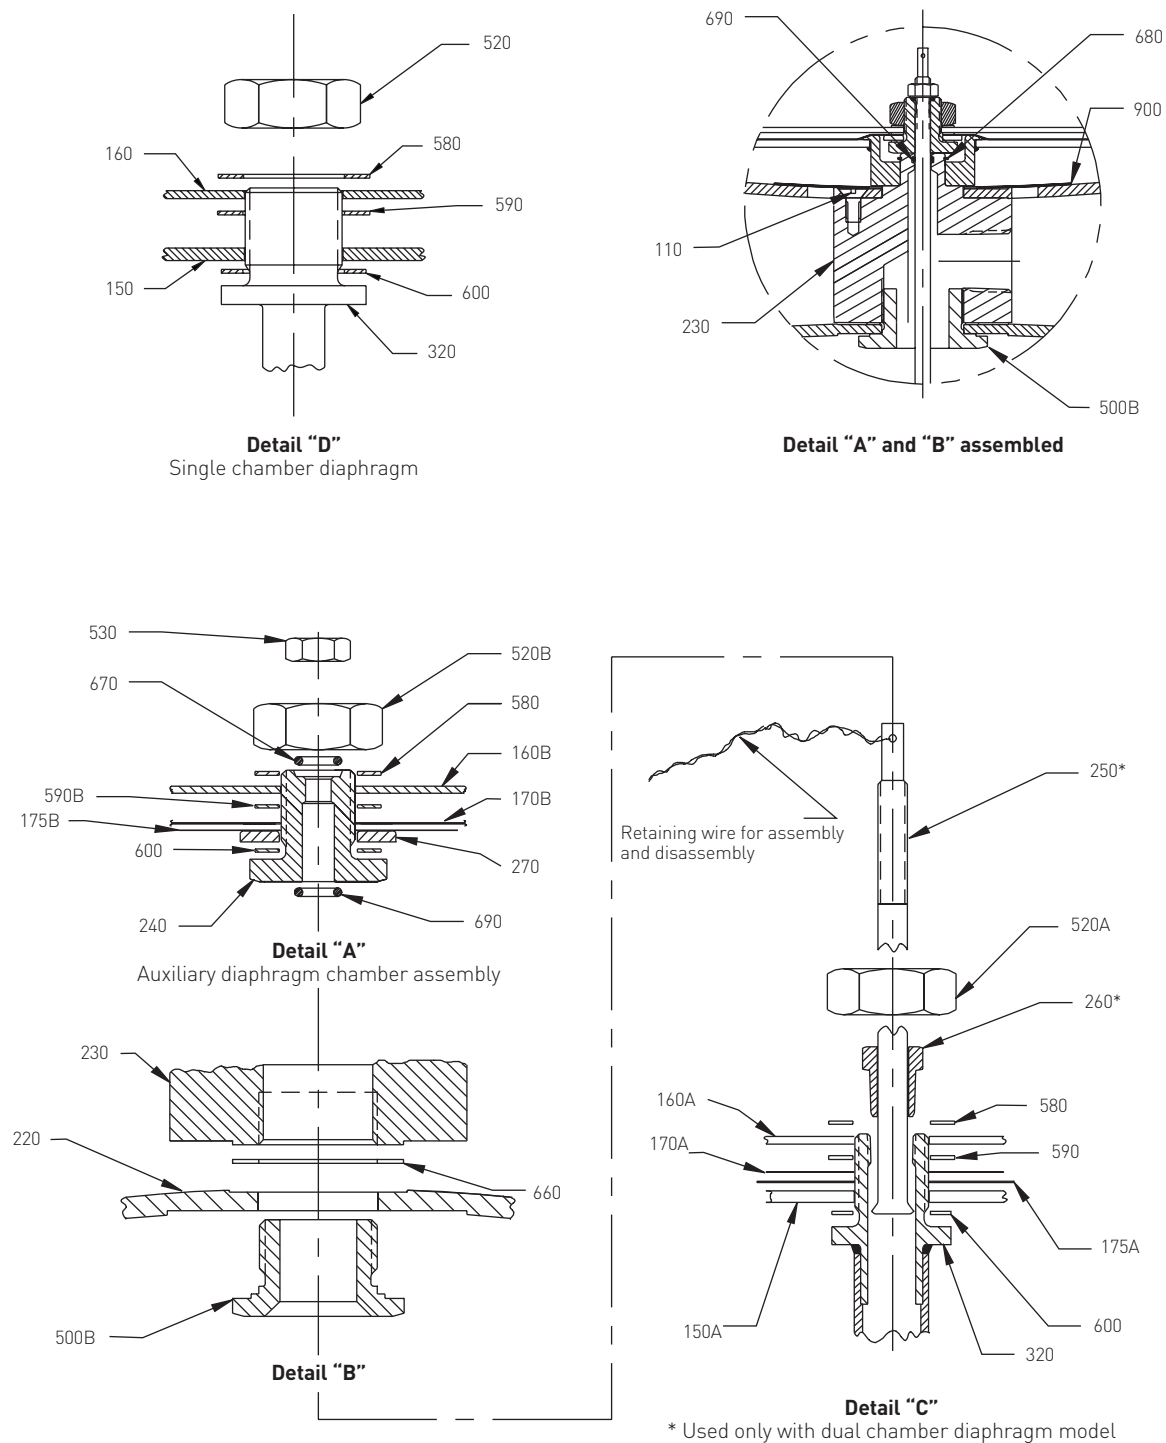

FIGURE 3
2. Unscrew the upper auxiliary case bolts (700) and nuts (730), and remove the upper auxiliary diaphragm case (210B).
3. Install a 6" to 8" long braided wire through the hole at the top of the lift rod (250) to retain the lift rod (250). (See Figure 3, detail C)
5. Remove nuts (530 and 520B) and PTFE O-ring (670). (See Figure 3, detail A).
6. The lift rod (250) is attached to the auxiliary plate bushing (240) with threads. Unscrew the lift rod (250) from the bushing (240) by turning the rod (250) clockwise until it drops down into the main valve shaft bore (320).
7. Remove the main diaphragm case bolts (700, 710). Remove the studs (810) from the body (100). Remove the lower auxiliary diaphragm case (280B) and the upper main diaphragm case (220) as a unit, which is assembled to the diaphragm case adapter (230). Allow the lift rod (250) to slip from the center hole and lift the lower auxiliary diaphragm case (280B), upper main diaphragm case (220), and adapter (230) upwards as one unit.
12. Unscrew counterclockwise the seat plate (910, 920) assembly from the main shaft (320). This is normally a hand operation, however, a $\frac{9}{16}$ " (14.3 mm) wrenching flat is provided on the seat hub (420). The connecting thread will run free, then tighten, and run free again as it disengages from a locking helicoil (330) in the vertical shaft (320). This will allow the seat plate assembly (910, 920), diaphragm (150, 160A, 170A) assembly and lower case (280A) to be separated.
13. Holding the shaft (320) stationary, remove the jam nut (520A) from the diaphragm (150, 160A, 170A) assembly. Remove the diaphragms (170A, 175A, 950, 960), washers (580, 590, 600), gaskets (620A), plates (150A, 160A), and lower case (280A) (as a unit) from the shaft (320). (See figure 3, detail C).
2.6.1 Single chamber diaphragm replacement (See Figure 3, detail D)
2.6.2 Dual chamber diaphragm replacement (See Figure 3, detail A, B, C)